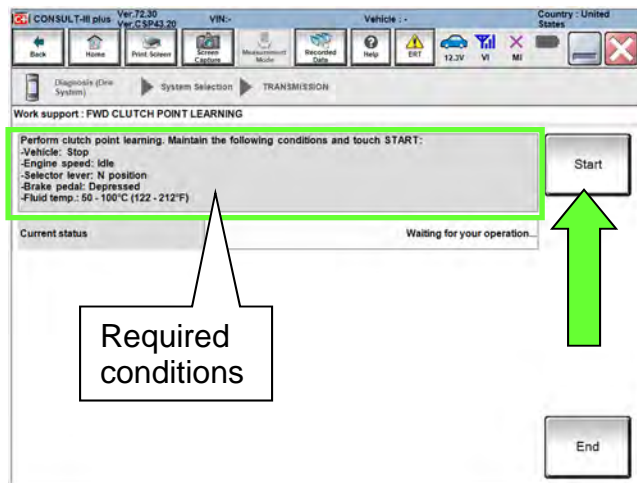

Figure 175
- Confirm that all of the required conditions indicated in Figure 175 are being met.
180. While maintaining all conditions shown in Figure 175 and the “Current status” indicates “EXECUTING”, shift the CVT into **D** and then wait until the Current status indicates “COMPLETED”.